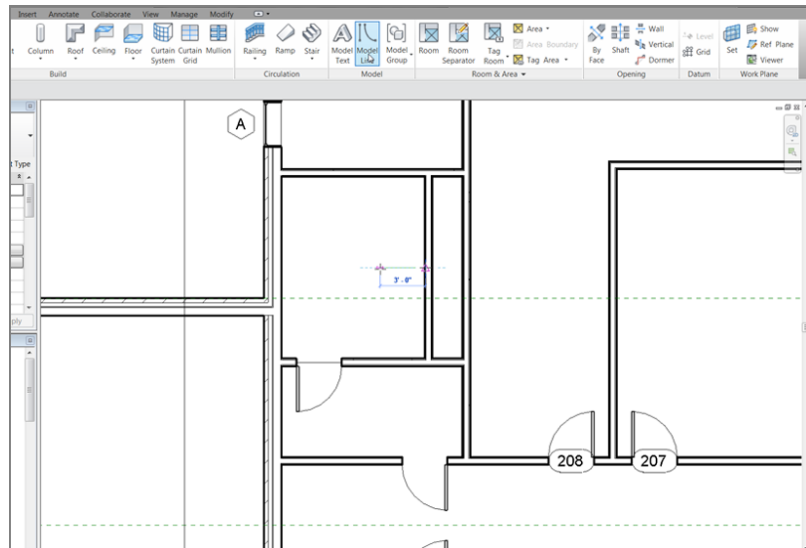

FIGURE 6.48: Drawing a line to establish the point to where the floor will slope
1. On the Architecture tab, click the Model Lines button (see Figure 6.48).
2. Draw a line from the midpoint of the restroom's right wall to the left 3'-0" (900mm), as shown in Figure 6.48.